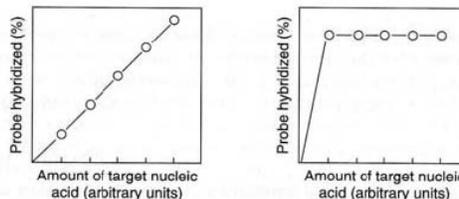

Figure 2. Analysis for probe excess in hybridization reactions.
**Probe:** Plan to have more probe than expected target. To answer questions about adding too much probe, run an extinction experiment: serially increase the amount of target by a factor of two and use a fixed amount of probe. Hybridize for a short length of time and quantitate the amount of probe that has hybridized. As long as the signal increases and shows linearity there is excess probe (Fig 2). If the signal levels off and a loss of linearity noticed, then the probe is not in excess (Fig 2).